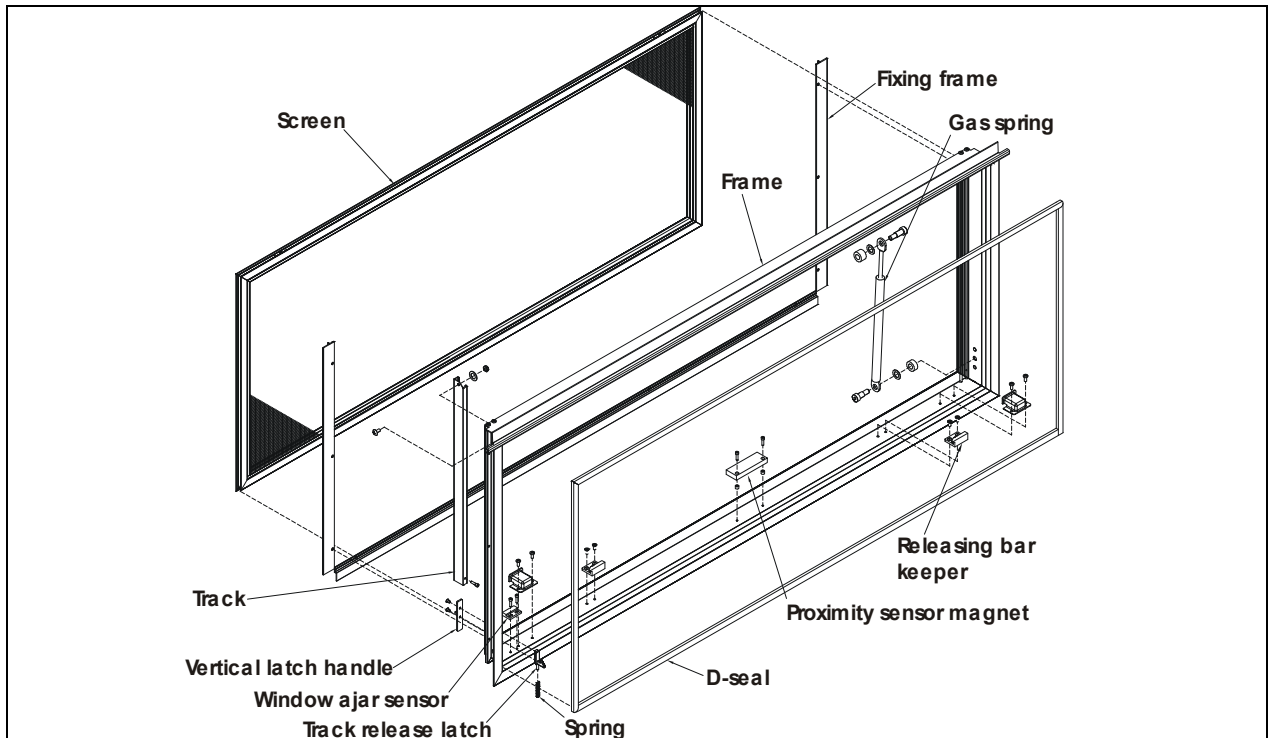

FIGURE 101: ELECTRIC AWNING WINDOW EXPLODED VIEW (FRAME) 18586
4. Loosen the set screws #5 (Figure 101) (rotate the arm to get to the second set screw) and disengage the swiveling arm from the motor shaft extension.